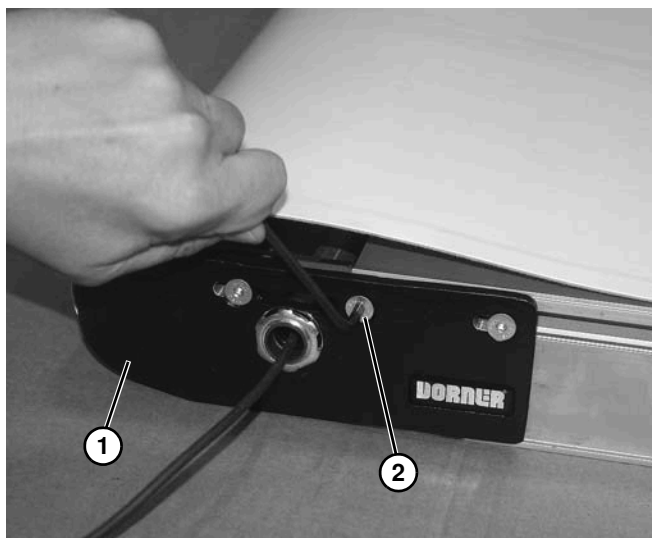

Figure 8
- c. On iDrive end of the conveyor, push in head plate assembly (**Figure 8, item 1**):
- Remove middle screw (**Figure 8, item 2**) from idrive head plate assembly (**Figure 8, item 1**) on each side of conveyor.